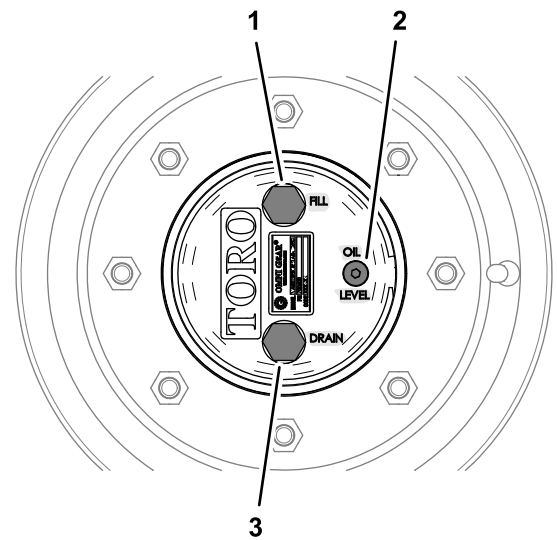

Figure 83
1. With the machine on a level surface, position a wheel so that the fill plug is at the highest (12 o'clock) position and the drain plug is at the lowest (6 o'clock) position (Figure 83).
1. With the machine on a level surface, position a wheel so that the fill plug is at the highest (12 o'clock) position and the drain plug is at the lowest (6 o'clock) position; refer to Figure 83 in Checking the Planetary-Gear-Drive Lubricant (page 64).